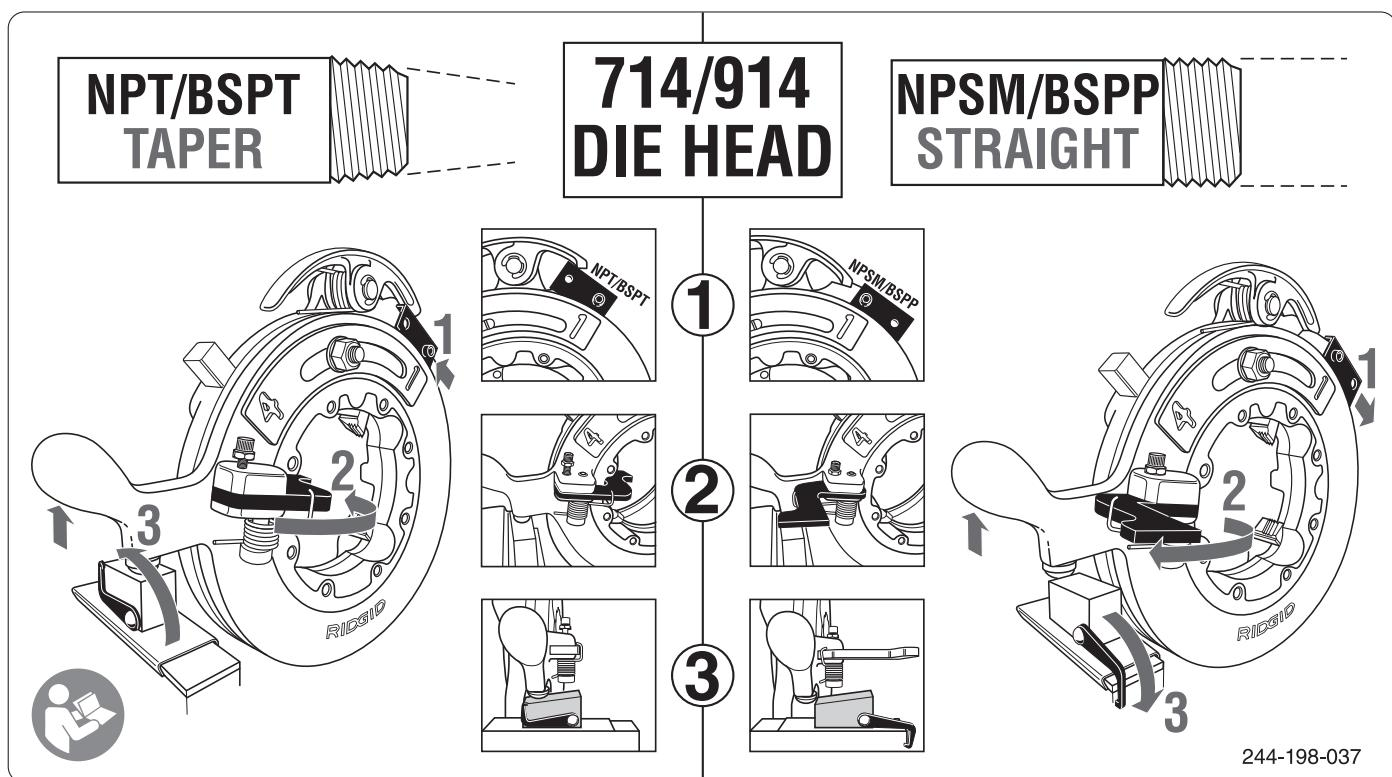

Figure 15 – Adjusting for Tapered or Straight Pipe Threads
- For tapered threads (NPT or BSPT depending on die head), referencing *Figure 15*, adjustments are “IN”.
- (1) Position the lockout plate **in** toward the release handle. Secure the lock out plate with the screw through the hole marked “NPT/BSPT”.
- (2) Move the release foot **in** towards the pipe.
- (3) Unhook the latch and allow sine bar to move **in** toward the die head. Rotate the latch next to the sine bar to protect it.
- For straight threads (NPSM or BSPP depending on die head), referencing *Figure 15*, the adjustments are “OUT”.
- (1) Position the lockout plate **out** away from the release handle. Secure the lock out plate with the screw through the hole marked “NPSM/BSPP”.
- (2) Move the release foot **out** away from the pipe and tighten release foot screw to retain in place.
- (3) Pull the sine bar **out** away from the die head and rotate the latch down to hook it to the carriage. There is a hole in the end of the carriage for the latch to engage in.